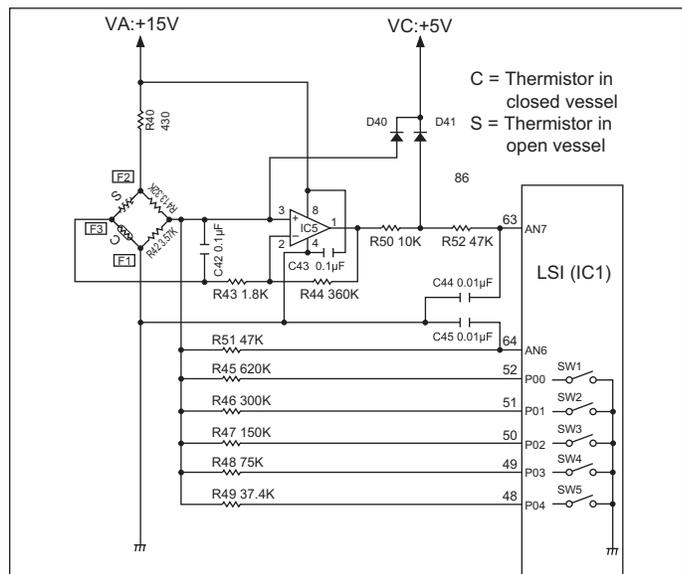

Figure 3-33. Detector Circuit
C. Detector Circuit of Humidity Sensor Circuit (See Figure 3-33): This detector circuit is used to detect the output voltage of the absolute humidity circuit to allow the LSI to control sensor cooking of the unit. When the unit is set in the sensor cooking mode, 6 seconds clearing cycle occurs than the detector circuit starts to function and the LSI observes the initial voltage available at its AN6 terminal.